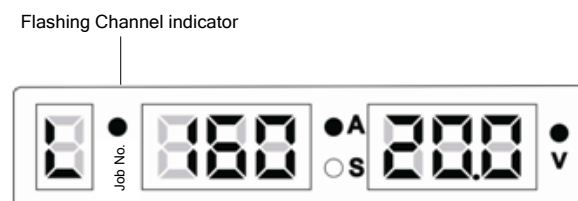

Figure 3-38 UI indicating that welding parameter adjustment ranges are locked
6. In the state where parameters are locked, the **Job No.** indicator flashes. See Figure 3-38. The current and voltage adjustment ranges are locked. In the state, you can perform welding and adjust the current and voltage within the specified ranges.